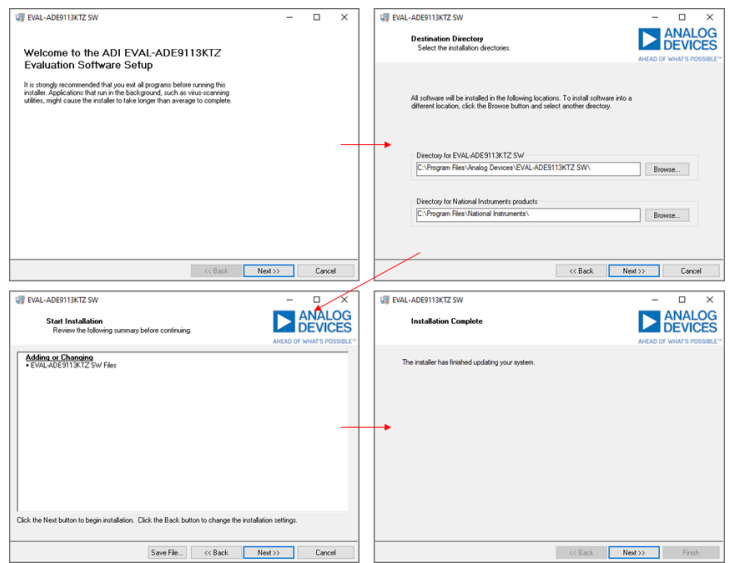

Figure 9. EVAL-ADE9113KTZ SW Installation
3. Follow the prompts shown on the screen to complete the installation for **EVAL-ADE9113KTZ SW**. The default settings are recommended (see Figure 9).